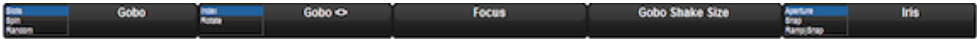

Figure 6.6. Wheels Toolbar for the Beam Parameters of a Studio Spot 575
1. Press the appropriate parameter type key : Colour or Beam or any user kind key that contains colour and beam functions. The Wheels Toolbar shows the available parameters and their current value; see *Figure 6.6, “Wheels Toolbar for the Beam Parameters of a Studio Spot 575”*.